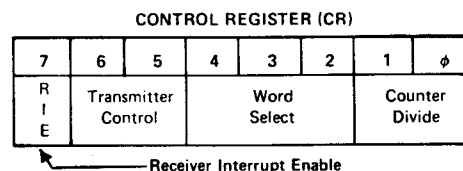

Fig. 9.33 Control register
The Control Register (CR), an eight-bit register within the ACIA, is used by the MPU to control the transmitting and receiving of serial data (Fig. 9.33). It is a write only register since the MPU cannot read it. To write into it, the ACIA must be selected via CS0, CS1, and $\overline{\text{CS2}}$, and both the RS line and the R/W line must be low ("0").